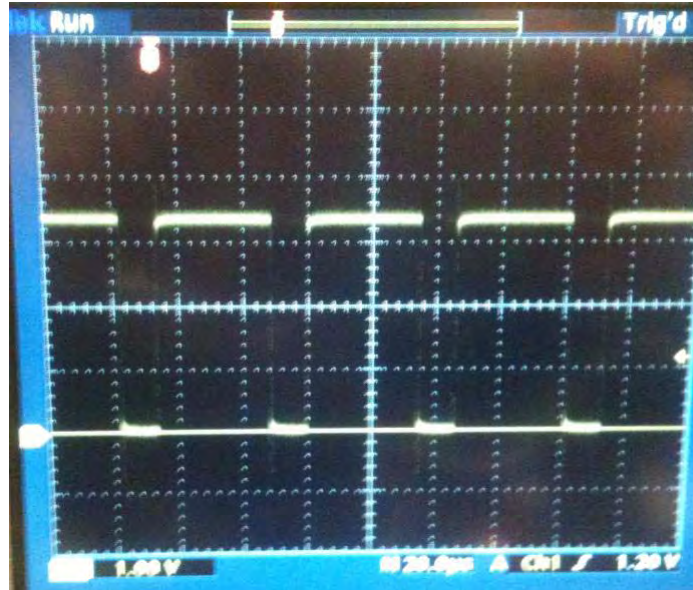

Figure 8. 75% Duty Cycle Waveform
11. Adjust the VPS to 1.5 V. The oscilloscope should show a 75% duty cycle like the waveform shown in Figure 8 and the voltage at C8 is 1.5 V.